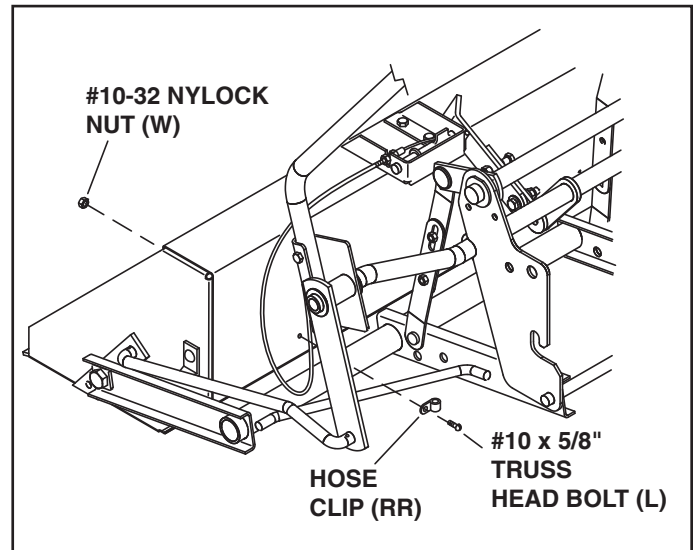

FIGURE 17
STEP 18: INSTALL HOSE CLIP AND SPACER (SEE FIGURE 17)
- Secure the dump cable to the back of the bucket using a hose clip (RR), a #10 x 5/8" truss-head bolt (L) and a #10-32 nylock nut (W).